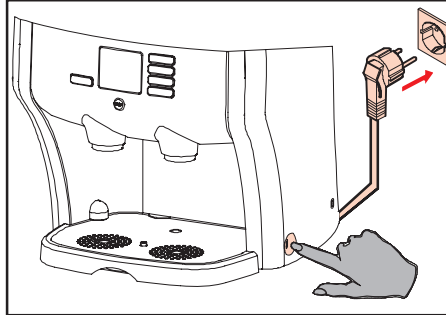

Fig. 25 Plug + switch
5. Insert the plug into the power outlet (fig. 25).
6. Switch the dispenser on at the power switch (fig. 25).